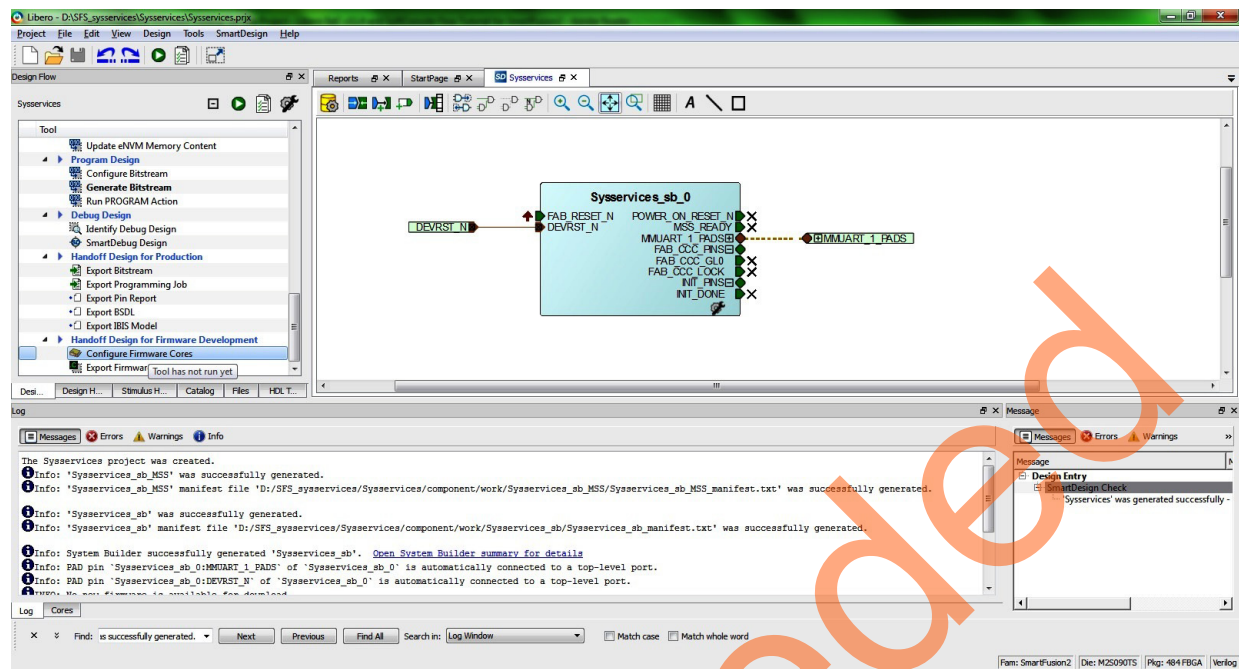

Figure 12 • Opening DESIGN_FIRMWARE Window
1. In the **Design Flow** tab, double-click on **Configure Firmware Cores** under **Handoff design for Firmware Development**. This opens **DESIGN_FIRMWARE** window as shown in Figure 12.